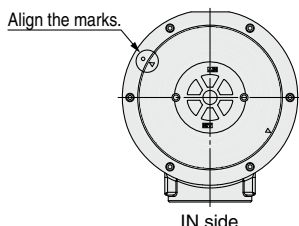

**Fig. 1 Valve position**
- Attach the main valve (sub-valve) to the body. The main valve (sub-valve) has a predetermined mounting direction. **Assemble the valve referring to Fig. 1.**